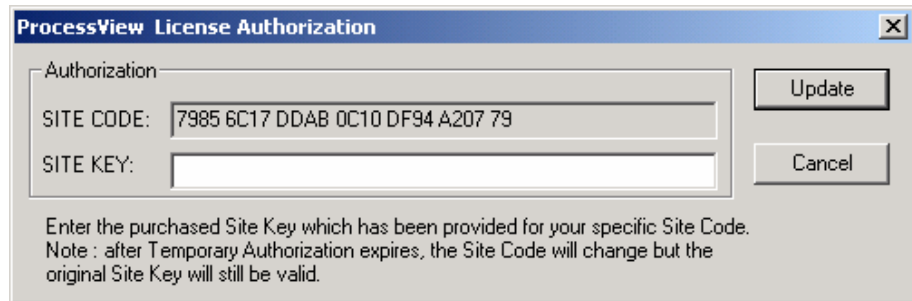

Figure 3.14. ProcessView License Authorization
19. Select **Authorize License** from the **Actions** menu, and enter the provided Site Key number in the **ProcessView License Authorization** dialog box to activate the license, as shown in the **Figure 3.14**.